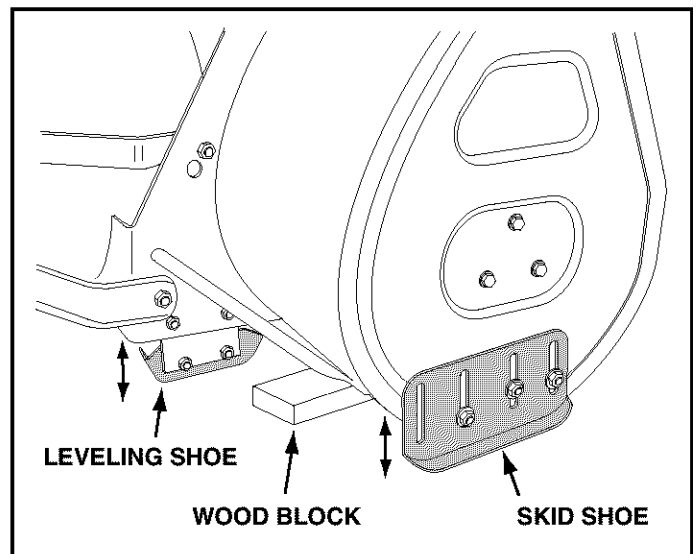

FIGURE 23
- To adjust the skid shoes, raise the snow thrower off the ground and place a wood block under each end of the scraper plate. Loosen the six hex nuts securing the skid shoes to the housing. Adjust the skid shoes up or down to the desired position and tighten the nuts securely. Both skid shoes should be the same height to keep the housing and the scraper plate level. See figure 23.
- The skid shoes may be turned to face either in or out. In order to obtain the lowest setting, where the scraper blade fully contacts the ground, the skid shoes must be facing out as shown in figure 23.
- Before adjusting the leveling shoes, make sure the skid shoes are properly adjusted. With the snow thrower in the lowered position, loosen the bolts which fasten the leveling shoes to the thrower and adjust the leveling shoes to solidly contact the ground. Retighten the bolts. See figure 23.